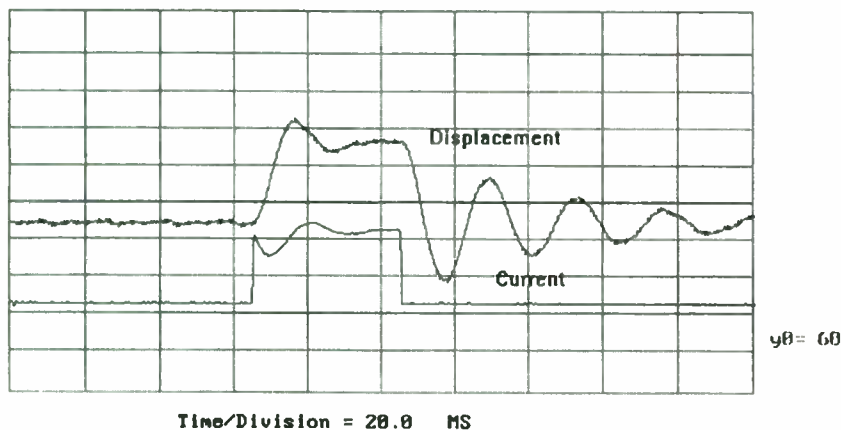

FIGURE 4a: 8" test driver motion axis vertical, right side up.
By using the DC pulse-impedance response of a specific driver, you can evaluate the sum of these design parameters. Figures 4a and 4b are plots of pulse-impedance response for both positive and negative pulses. The first is for the driver “right side up,” and the other for the driver “upside down.” The axis of cone motion is always vertical in these tests.
Looking at Fig. 4a, the impedance ratio (IR) decreases with greater positive-amplitude pulses. A decrease in IR indicates a lower maximum cone velocity, i.e., the maximum velocity does not increase linearly with current. This can be caused by increasing suspension compliance with displacement, the usual case, or by a reduction of the magnetic-field strength with displacement.